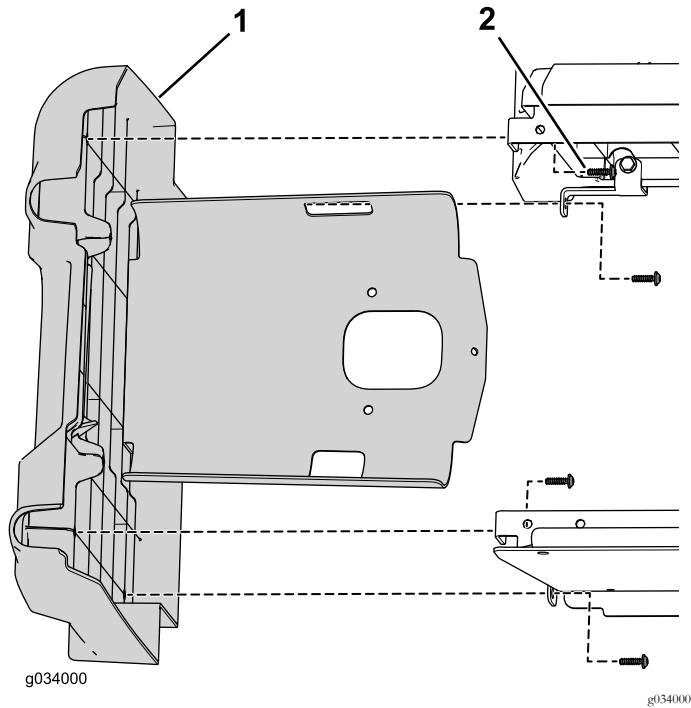
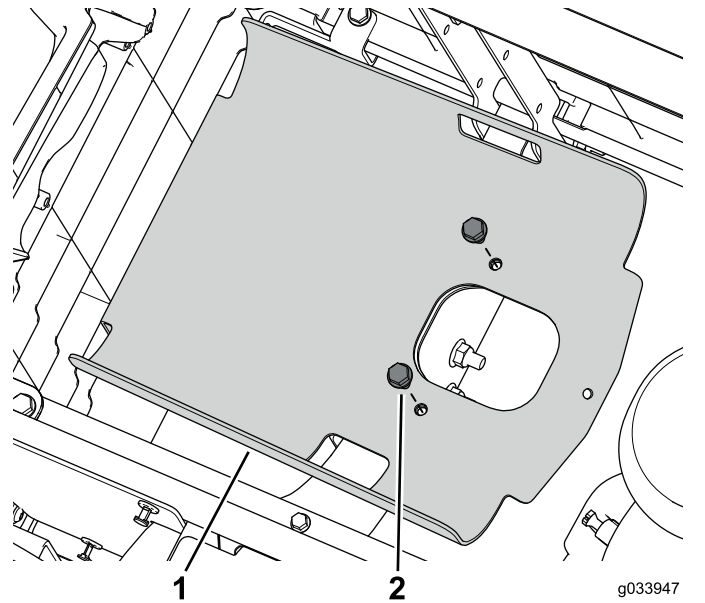

Figure 46
Figure 47
- Use the hardware you removed earlier to install the original left panel assembly to the rear seat-base panels (Figure 46 and Figure 47).